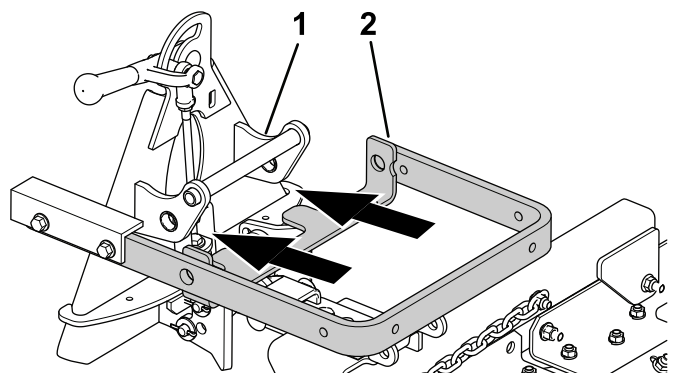
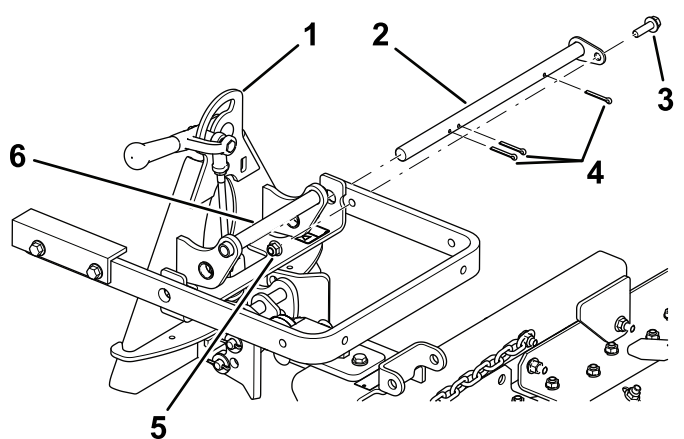

Figure 4
Figure 5
3. Align the lift arm with the bracket on the attachment adapter (Figure 4) and connect them using the pivot bar as illustrated in Figure 5.
**Note:** When moving the attachment adapter, use the handle provided on the back of the adapter (Figure 4).
4. Secure the pivot bar (Figure 5) with 3 cotter pins and a bolt (3/8 x 1-1/4 inches) and locknut (3/8 inch).